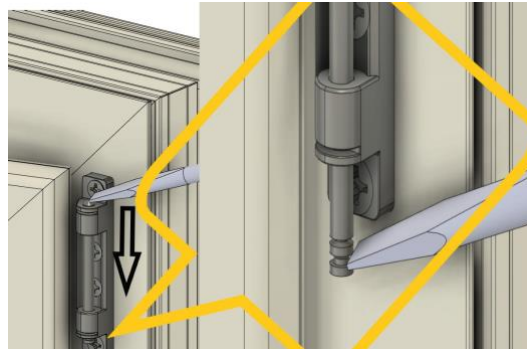

Figure 18
3. One installer supports the weight of the sash. A second installer uses a screwdriver to begin to push the hinge pin down and out. The same tool can be used to finish pulling the pin out from below. Pull the pin until you hear a click. If you pull it all the way out reinsert until you hear a click (Figure 18).